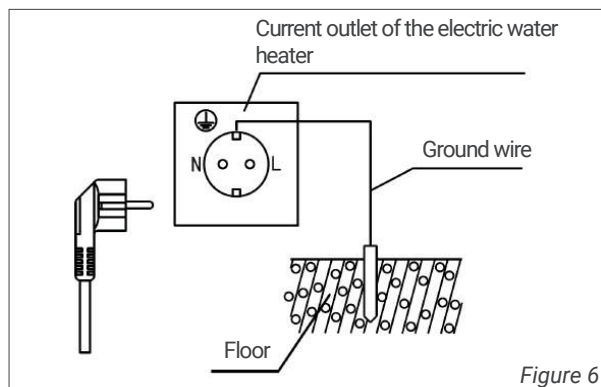

Figure 6
1. When using the electric water heater for the first time or after emptying the tank and then using it again, the electric water heater tank must first be filled with water. The method is: open the water inlet valve, lift the handle of the mixer valve and turn it clockwise to the high temperature area, that is, start injecting water into the inner tank. When hot water comes out, it means it is full of water, then turn the handle of the water mixing valve counterclockwise to the low temperature area and push it to the closed position (as shown in Fig. 6).